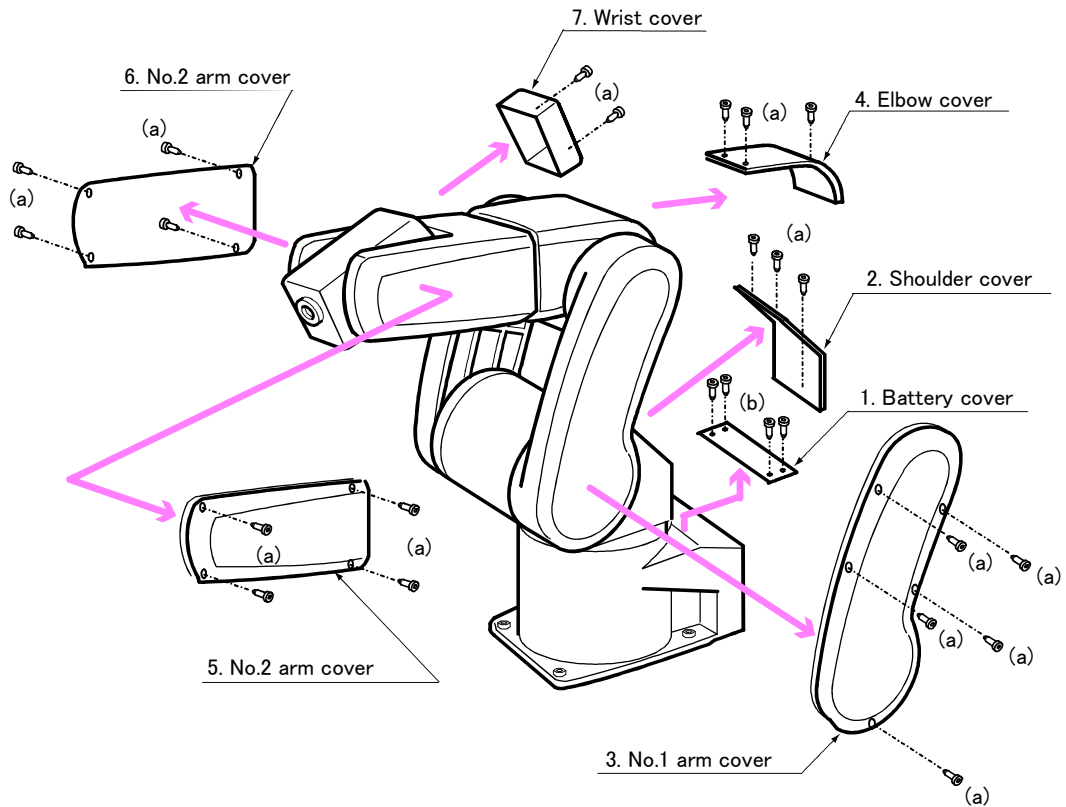
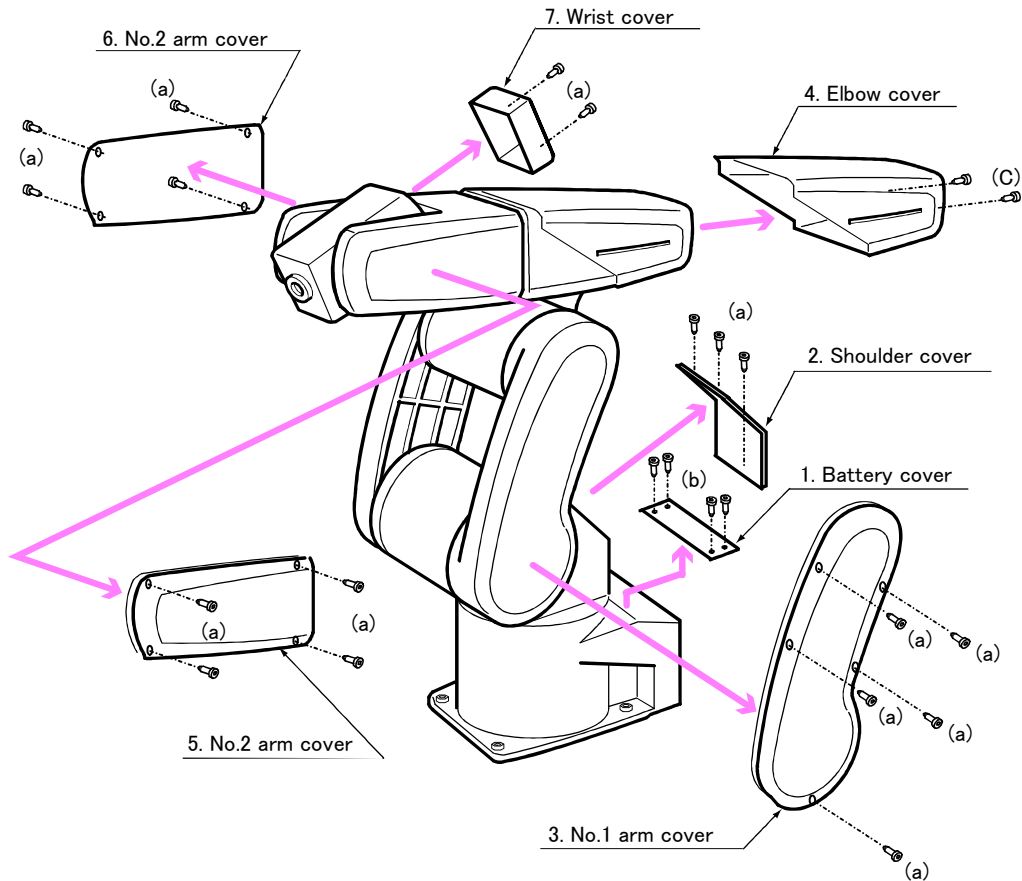
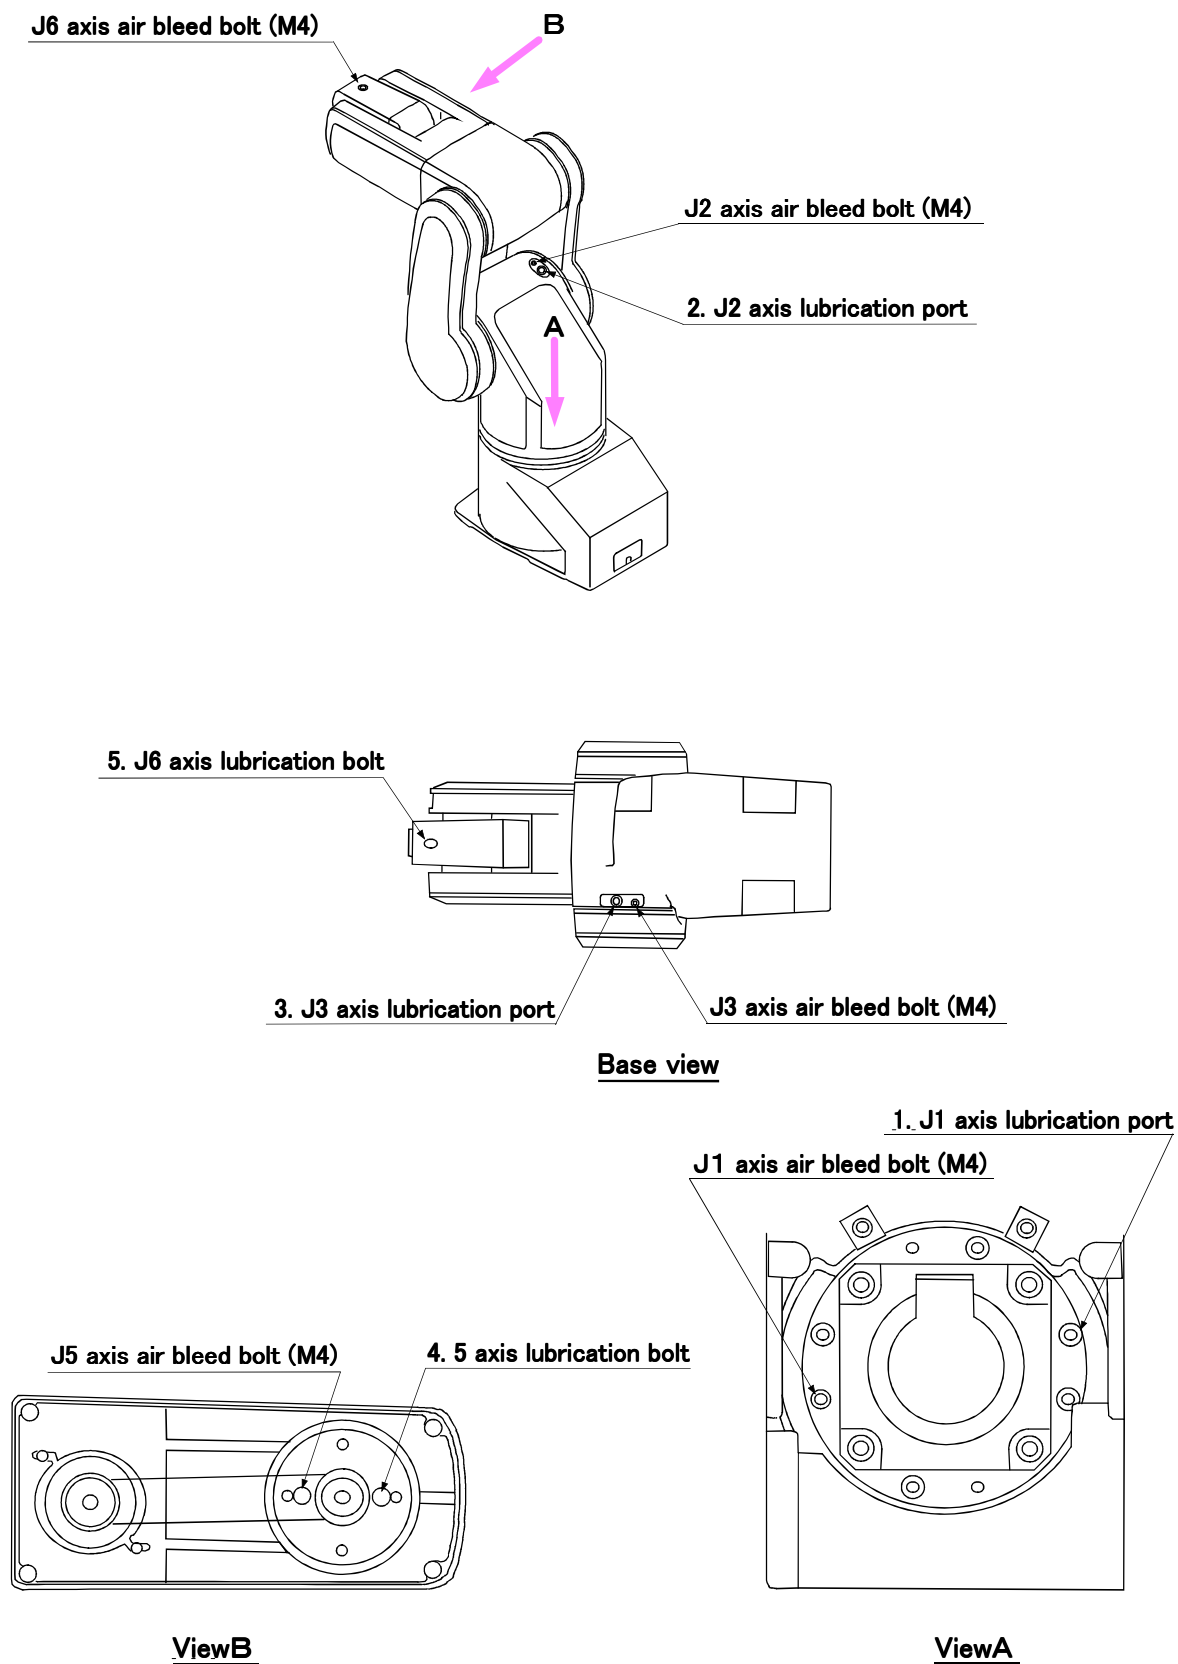
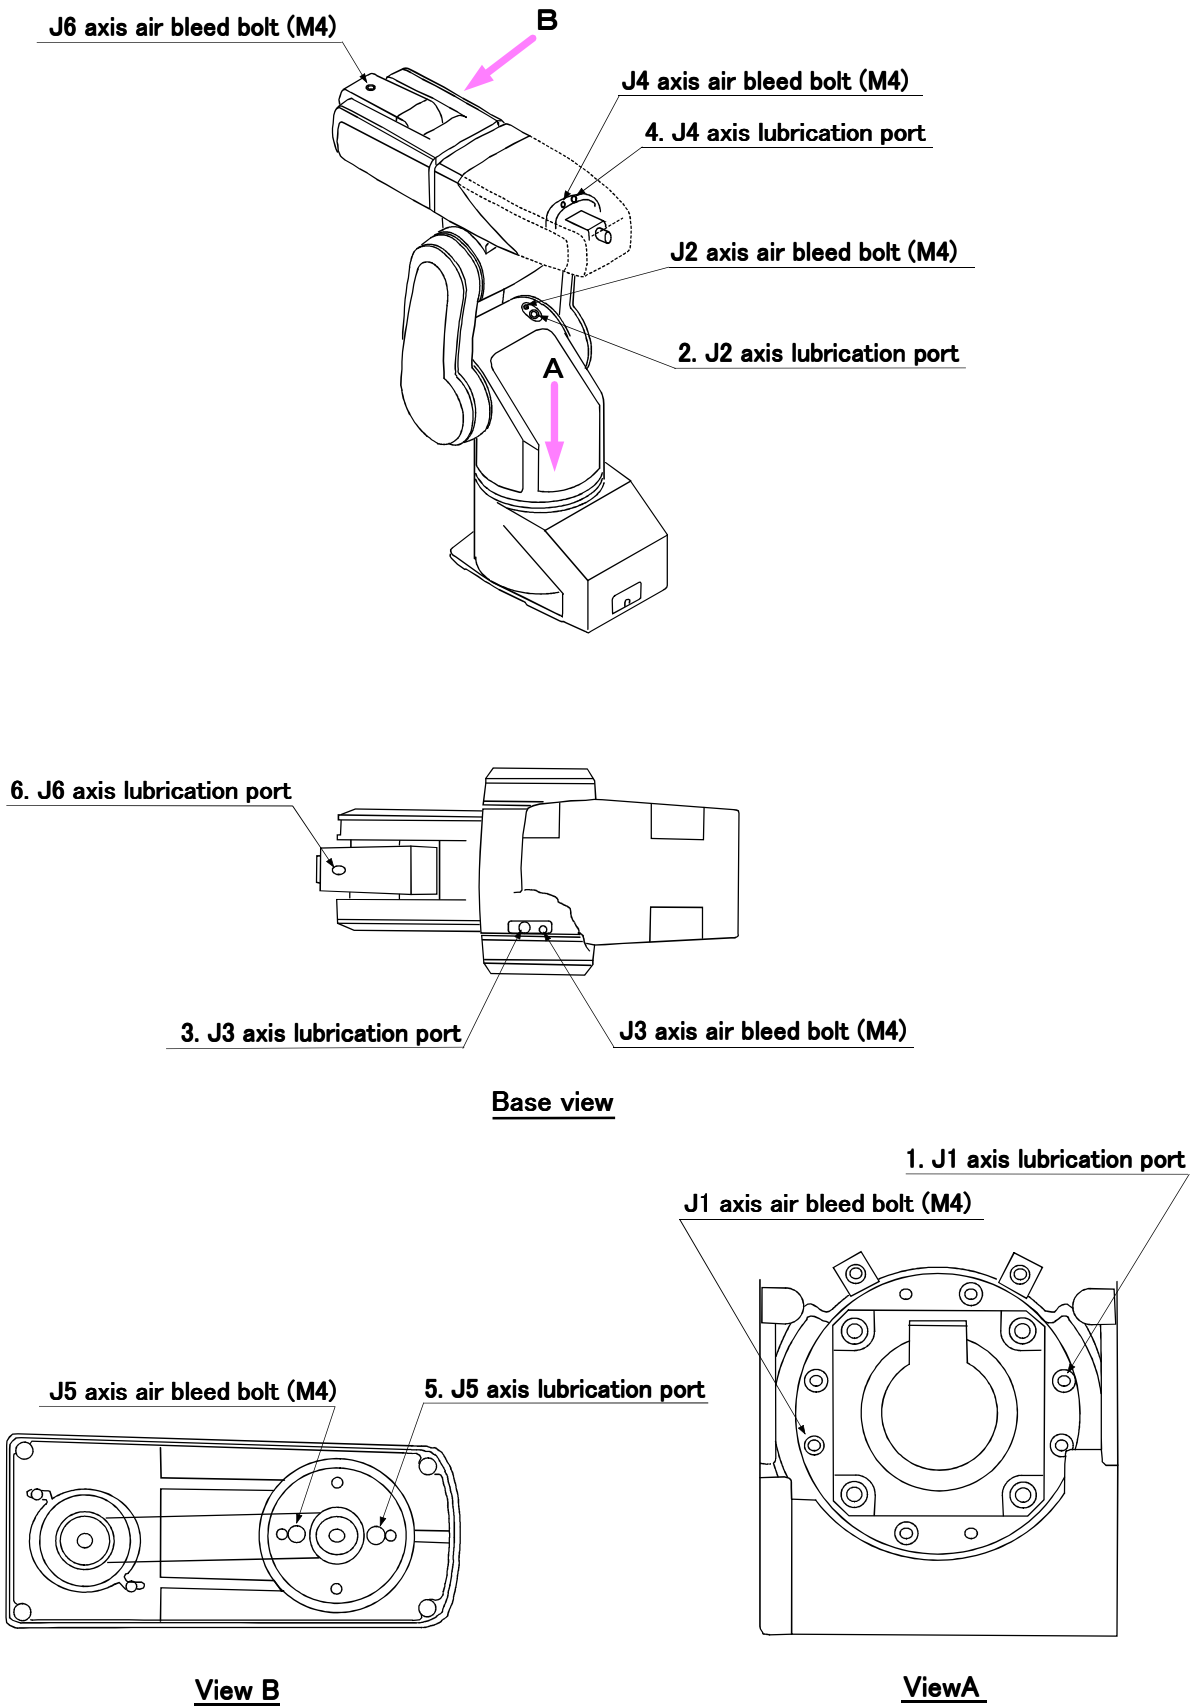

Fig.5-4 : Installing/removing the cover (5-axis type)
Fig.5-5 : Installing/removing the cover (6-axis type)
Fig.5-8 : Lubrication positions (5-axis type)
Fig.5-9 : Lubrication positions (6-axis type)
- (1) Refer to Fig. 5-4 when using the 5-axis type robot arm, and Fig. 5-5 when using the 6-axis type robot arm, and remove the cover.
- (2) The names of the covers are given in Table 5-3, and a list of the cover installation screws is given in Table 5-4.
- (3) There are some covers that may be difficult to remove due to the robot posture. In this case, change the robot posture with jog operation, and then remove the cover.
- (4) When attaching the cover after maintenance and inspection, use the detaching procedure in reverse.
The part Nos. and symbols in Table 5-3 and Table 5-4 correspond to Fig. 5-4 and Fig. 5-5.
- 2) Follow Fig. 5-4 or Fig. 5-5, and remove the No. 2 arm covers (L) and (R).
The grease nipple position is shown in Fig. 5-8 for the 5-axis type, and in Fig. 5-9 for the 6-axis type. The lubrication specifications for each place are shown in Table 5-5. Before lubricating, refer to "Fig. 5-4 Installing/removing the cover (5-axis type)" on page 42 for the 5-axis type, and "Fig. 5-5 Installing/removing the cover (6-axis type)" on page 42 for the 6-axis type, and remove the required covers.
- The numbers in the Table 5-5 correspond to the supply positions in Fig. 5-8 and Fig. 5-9.
- 1) Set the 5-axis type robot to the posture shown in Fig. 5-8, 6-axis type robot to the posture shown in Fig. 5-9. Refer to the "5.3.2 Installing/removing the cover" on page 42 and remove the covers.